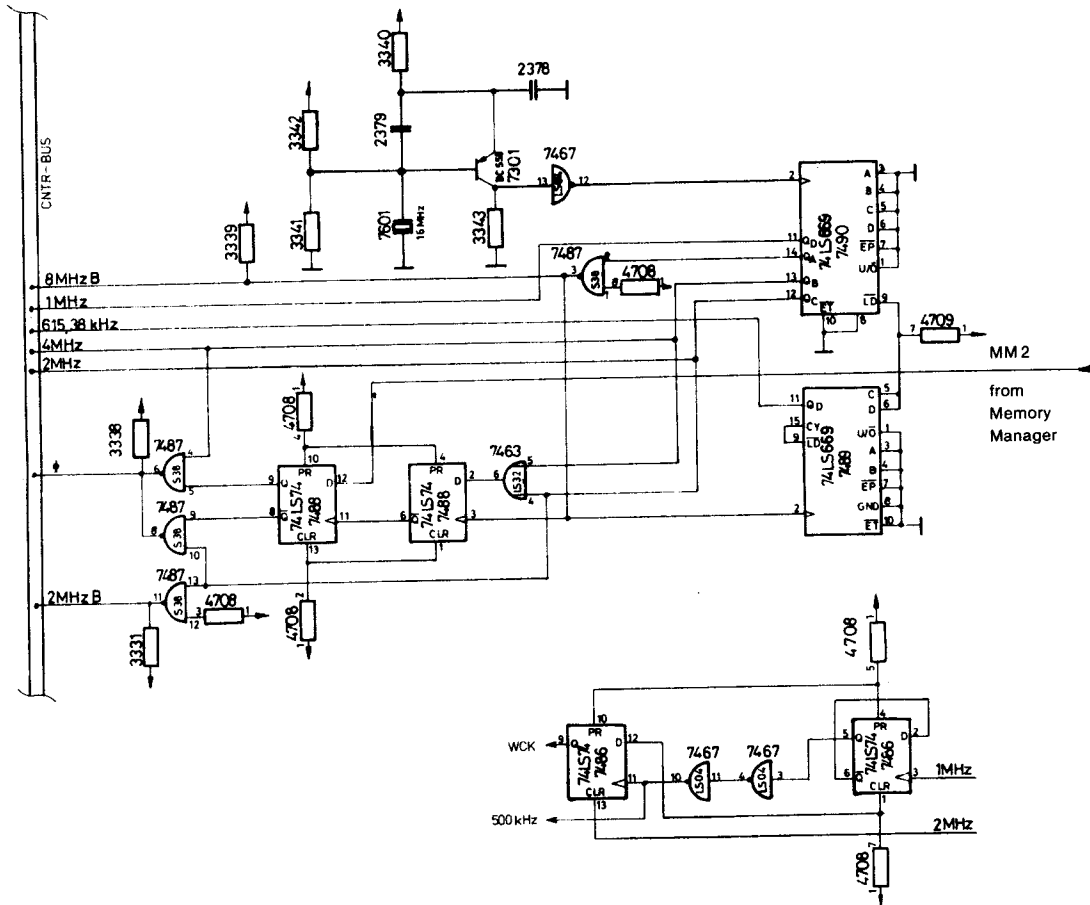

Figure 2.10 Circuit Diagram - Clock Generator
A quartz stabilised Colpits-Oscillator generates a frequency of 16 MHz. It is followed by a TTL-buffer (item 7467) with a Schmitt-trigger input. The outputs are obtained, by division, from a 4 bit binary counter (items 7489/7490). See figure 2.10.